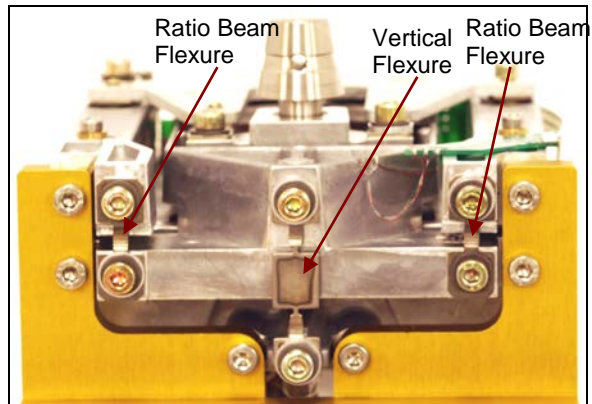

Figure 3-73. Ratio Beam Flexures and Vertical Flexure.
13. Install the Vertical Flexure, *with the elongated hole down.* (See Figure 3-73.)